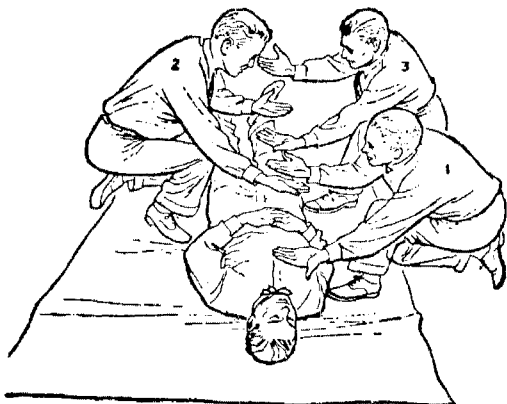

Fig. 24—Hammock Carry Step 1—Position of Bearers
- Step 1. All carriers kneel on the knee towards the victim's feet. (See Figs. 24 and 25.)